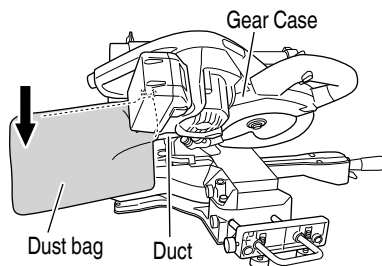

Fig. 51
14. Using the dust bag (Standard accessory) (Fig. 51)